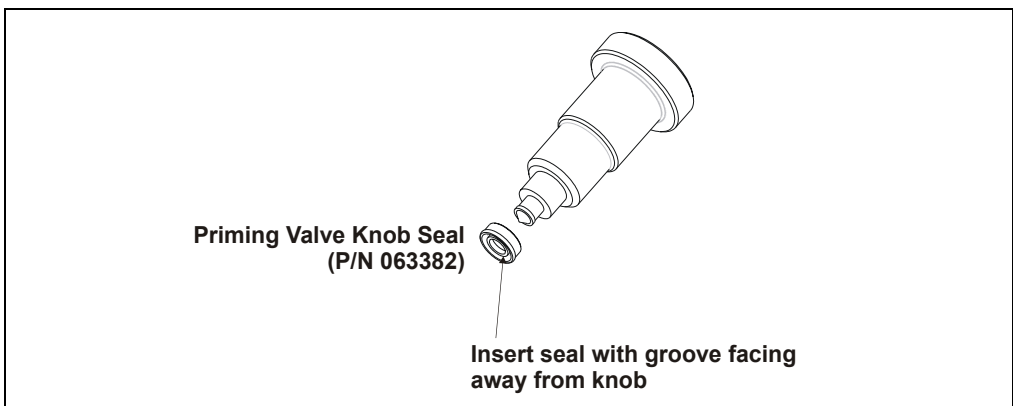

Figure 9-10. Replacing the Priming Valve Knob Seal
7. When correctly installed, the groove in the priming valve knob seal faces away from the knob (see Figure 9-10). Hold the new seal (P/N 063382) carefully, to avoid scratching or nicking the sides, and then slide the seal onto the knob.